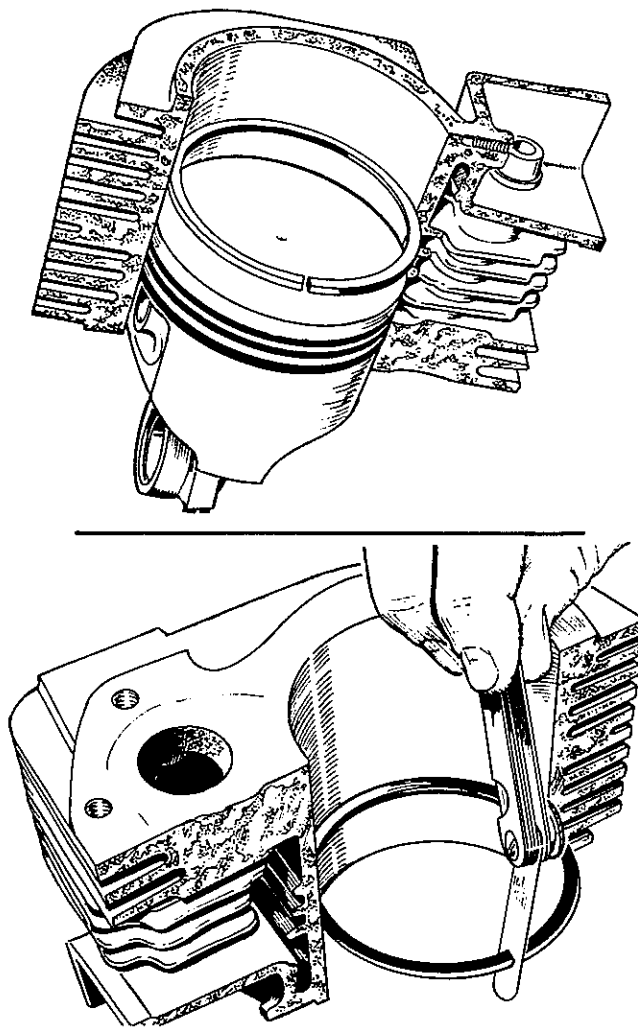

FIGURE 16-8. POSITIONING OF PISTON RING AND MEASURING OF END GAP
- a. Install piston ring in cylinder bore. Invert piston and push ring to end of ring travel, about halfway into bore, which trues the ring end gap. Check the gap with a feeler gauge as shown in Figure 16-8.